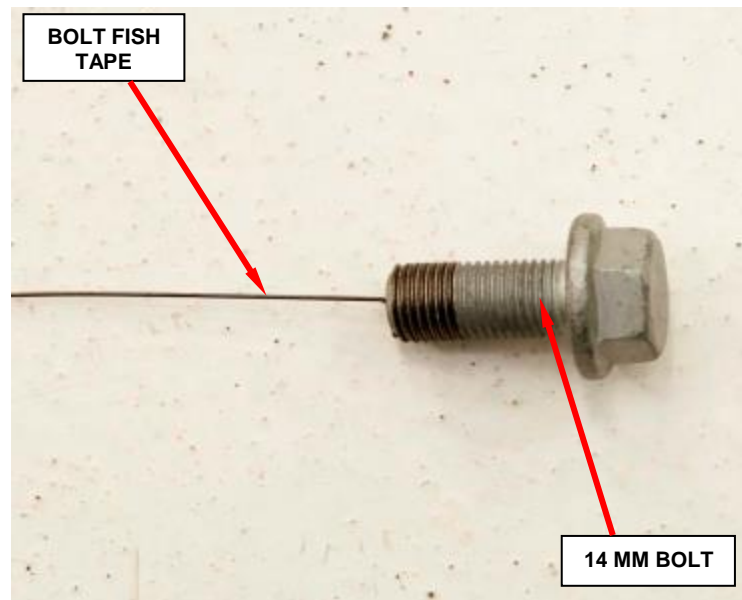

Figure 22 – "Bolt Fish Tape" Tool
40. Screw the 14 mm bolt into the "bolt fish tape" tool supplied with the kit (Figure 22).